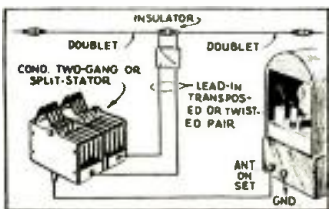

Fig. 2, Connecting a S.-W. doublet.
**CONNECTING A SHORT-WAVE DOUBLET.** A lead-in of the transposed type or of the twisted type may be efficiently coupled to a set not provided with doublet antenna posts, as shown in Fig. 2, by utilizing a 2-gang or a split-stator condenser. The capacity of each section should be about 100 mmf. and is not at all critical. The condenser may be mounted out of sight, since once the adjustment is made it need not be changed, unless a "dead spot" is encountered, in which case a small change of capacity will cure the trouble.